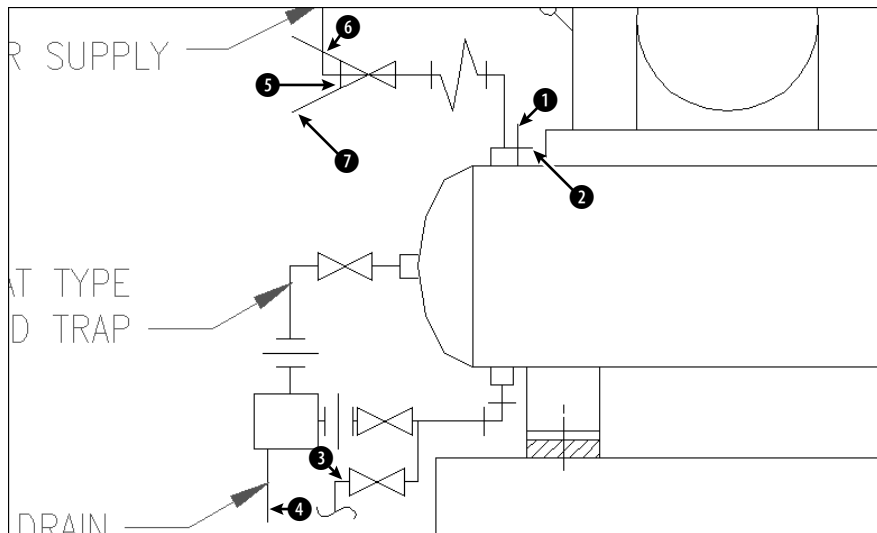
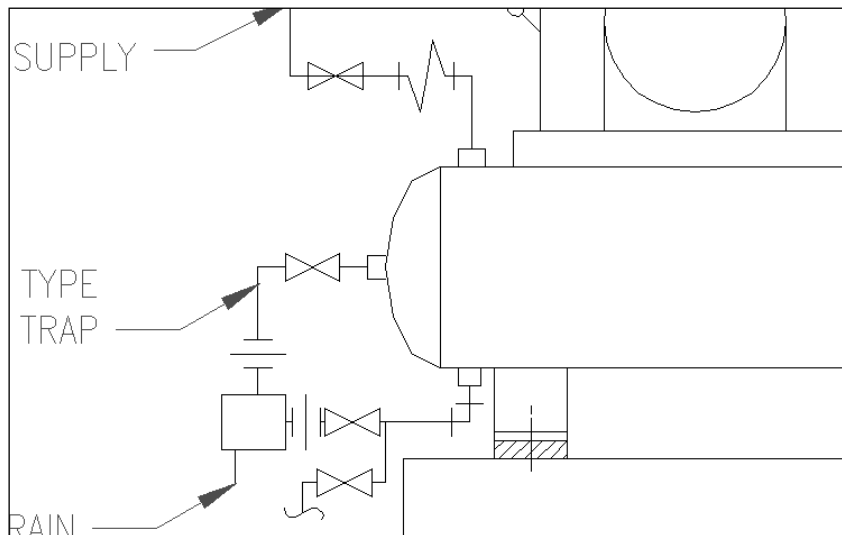

Figure 10-16: A schematic of an air compressor.
Figure 10-17: The completed clamp in two views.
2. Save the file as `ab10-05.dwg` in your AutoCAD Bible folder. It looks like Figure 10-16.
3. Start the TRIM command. At the `Select objects:` prompt, pick lines at ❶ and ❷ in Figure 10-16 and then press Enter.
4. At the `Select object to trim or shift-select to extend or [Project/Edge/Undo]:` prompt, again pick lines at ❶ and ❷ in Figure 10-16. Be sure to pick them outside the intersection, as shown. Press Enter to end the command.
5. Choose Trim on the Modify toolbar again. At the `Select objects:` prompt, pick the line at ❸ in Figure 10-16 and press Enter.
7. Pick the line at ❹ in Figure 10-16 to trim the line. Press Enter to end the command.
8. Start the TRIM command again. At the `Select objects:` prompt, pick ❺ and press Enter. At the `Select object to trim or shift-select to extend or [Project/Edge/Undo]:` prompt, pick the lines at ❻ and ❼. Press Enter to end the command.
9. Save your drawing. It should look like Figure 10-17.